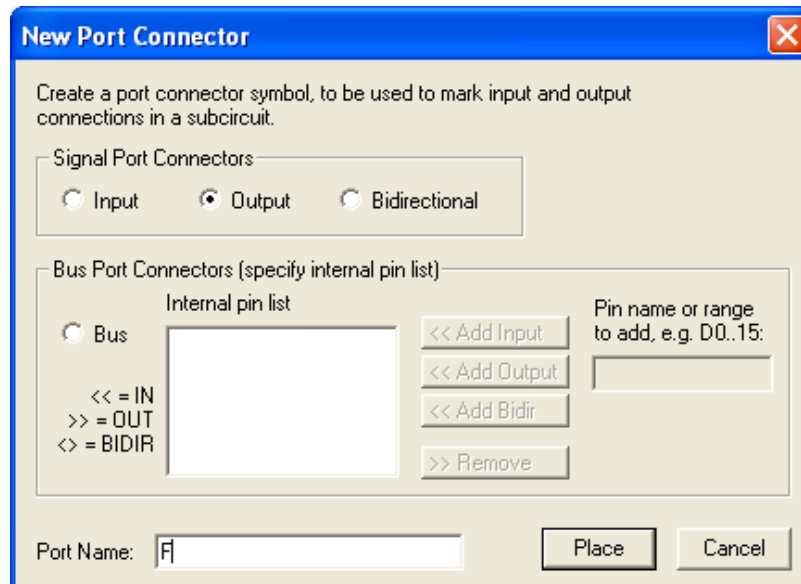

Figure 2
- g. When creating the connector for output “F”, choose the “Output” radio button. (Figure 2 below shows the “New Port Connector” window with output “F” selected.)